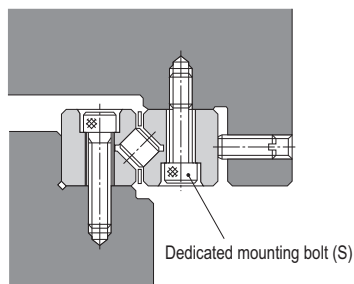

Fig.2
If it is inevitable to adopt a mounting method like the one shown in Fig.2 for a structural reason, use the dedicated mounting bolt (S) indicated in Fig.3.